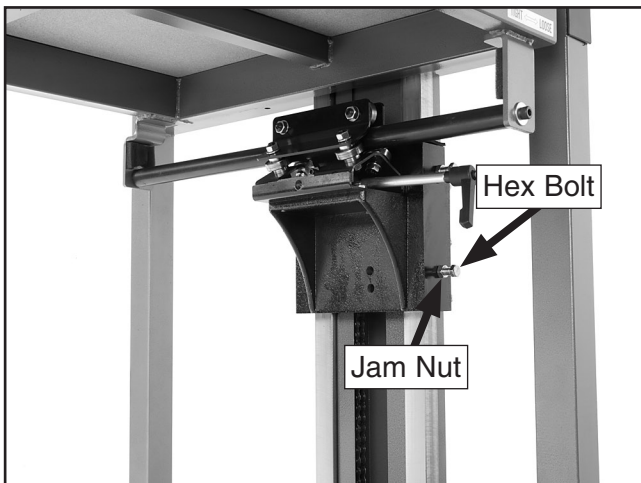

Figure 62. Wear pin adjustment.
2. Loosen the jam nut shown in (Figure 62).